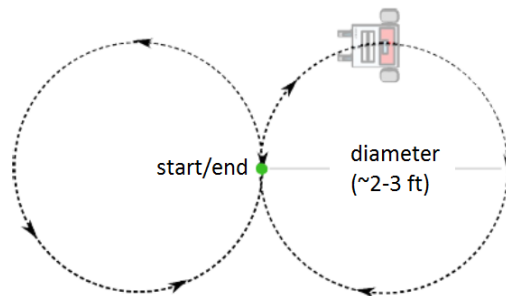

Figure 9: Figure Eight Robot Motion
3. Next, create a “*moveFigure8()*” function to move the robot in a figure eight using two circles (see Figure 9).